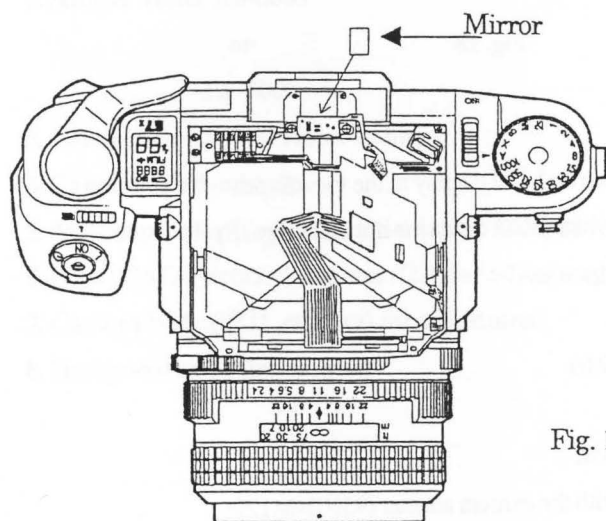
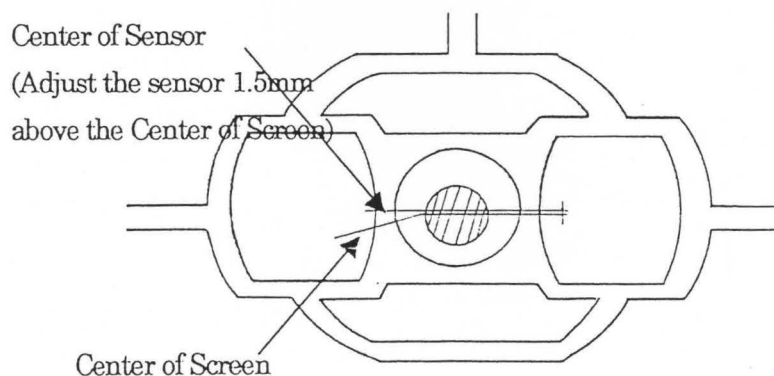

Fig. 14
Fig. 15
- (1) Attach the AE Pentaprism Finder 67II to the 67II camera.
- (2) Affix the mirror with reference to Fig. 14.
- (3) Insulate the loupe section against light with black tape.
- (4) Mount the lens (105mm f/2.8) on the camera.
- (5) Apply light of penlight, etc., to mirror and search for position in which the pattern on the light sensor (Fig. 15) can be seen from the lens side..